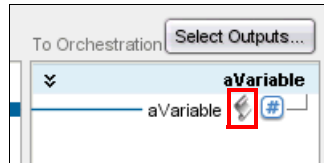

Figure 3-91 The “scroll” function icon
5. A mapping line displays between the source nodes and the destination node. The line is colored blue for a guaranteed mapping and is colored magenta for a mapping that is not guaranteed. A function icon also displays next to the destination field node, as shown in Figure 3-91. The function icon looks like a scroll and is highlighted in the figure.